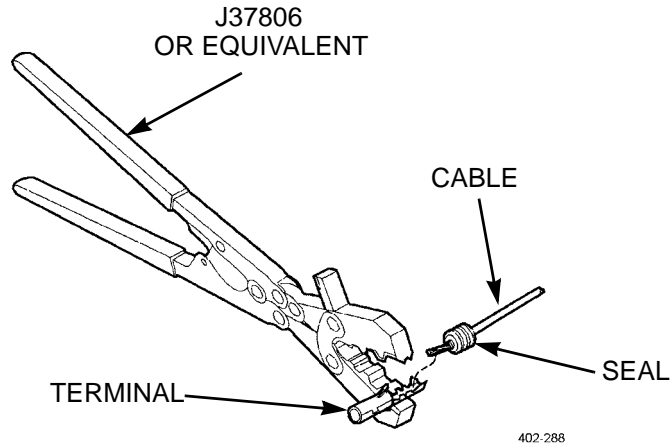

Figure 13. Crimping Procedure.
- (9) Crimp new terminal onto wire using crimp tool (Figure 13).